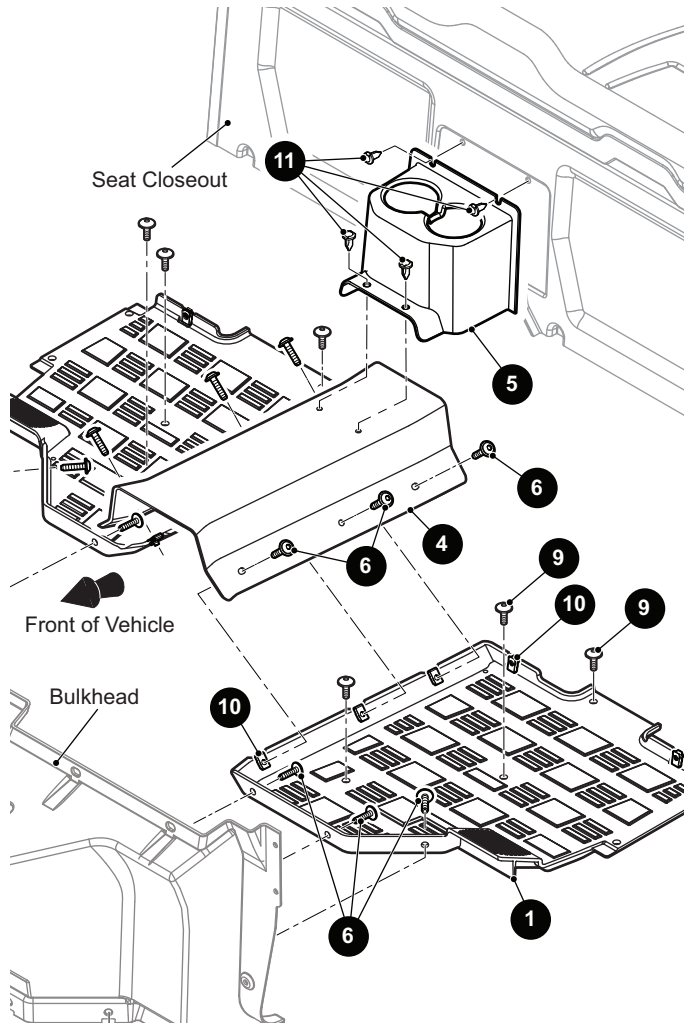

Fig. 12 Floorboards
2. Remove the plastic rivets (11) that secure the cup holder (5) to the seat closeout and the prop-shaft cover (4) (See Fig. 12). Remove the cup holder.
3. Remove the screws (6) that secure the prop-shaft cover (4) to the floorboards. Remove the cover.
4. Remove the screws (9) that secure the floorboards to the frame.
5. Remove the screws (6) that secure the floorboards to the bulkhead. Remove the floorboards.